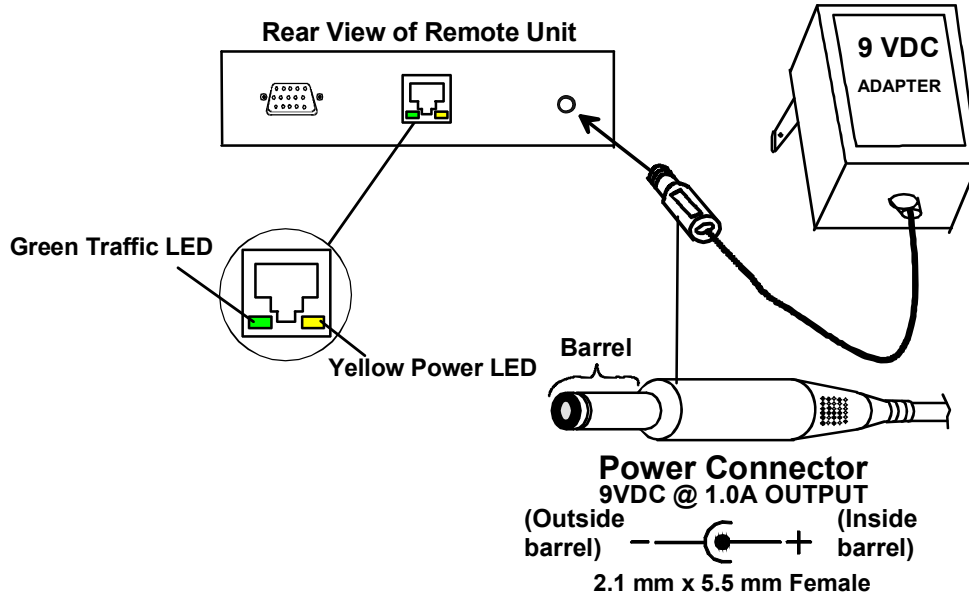

Figure 14- Connect the AC adapter to the Remote Unit
2. Connect each AC adapter power connector to the 9VDC ports on the Remote and Local Units. Plug each AC adapter into a power outlet. The yellow LED on the RJ45 connector of both the Remote and Local Units should illuminate, indicating that a proper power connection has been made to them. (See Figure 14.)
Note: The green LED on each RJ45 connector will illuminate anytime data traffic is passing between the Local and Remote Units, indicating proper CAT5 cable connection and communication. (See Figure 14)